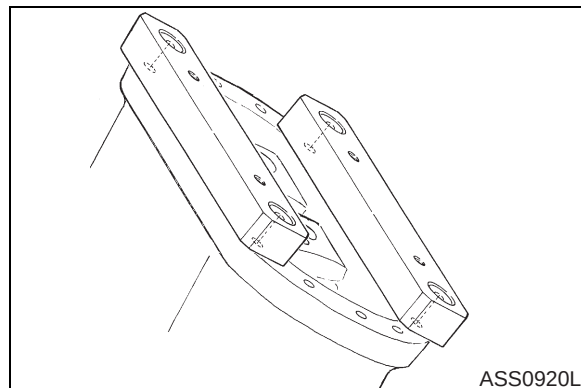

Figure 93
B. Only Size 140 - 200 (Figure 93).